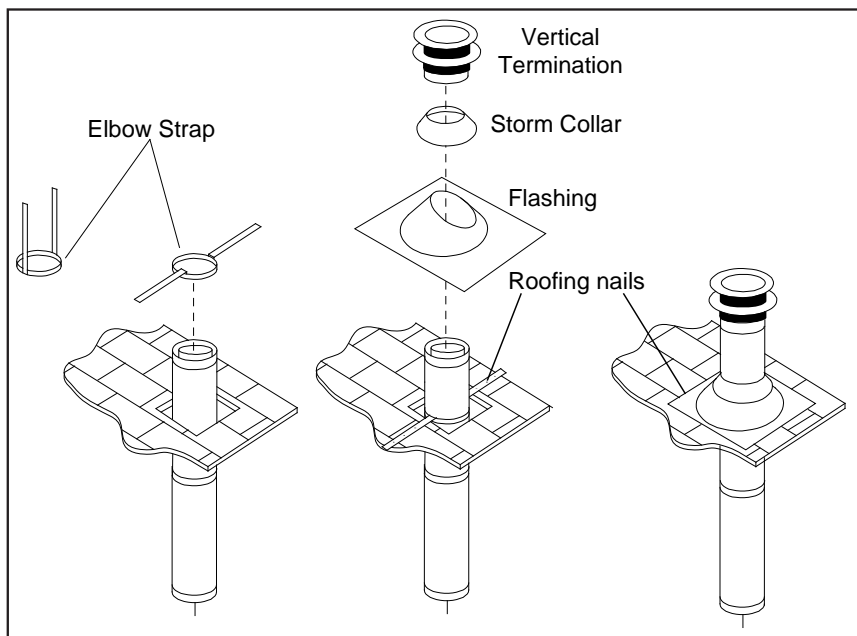

Figure 37: Vertical Vent Termination
- STEP 6.** Once the pipe sections have been joined, and run up through the hole in the roof, slip an elbow strap over the exposed sections, bend the support straps outwards, and push the elbow strap down to the roof level, as shown in Figure 37. Tighten the clamp around the pipe section. Use a level to make sure the pipe is truly vertical. With roofing nails, secure the support straps to the roof. Seal the nails holes heads with non-hardening mastic. Trim the excess length of the support straps that extend out beyond the edge of the flashing.